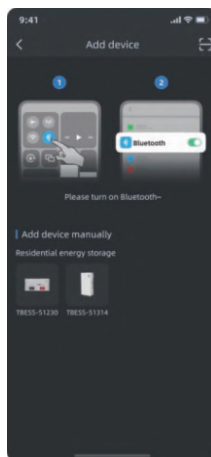

Figure 2
2) Figure 2: Please confirm that the Bluetooth on your phone is turned on.